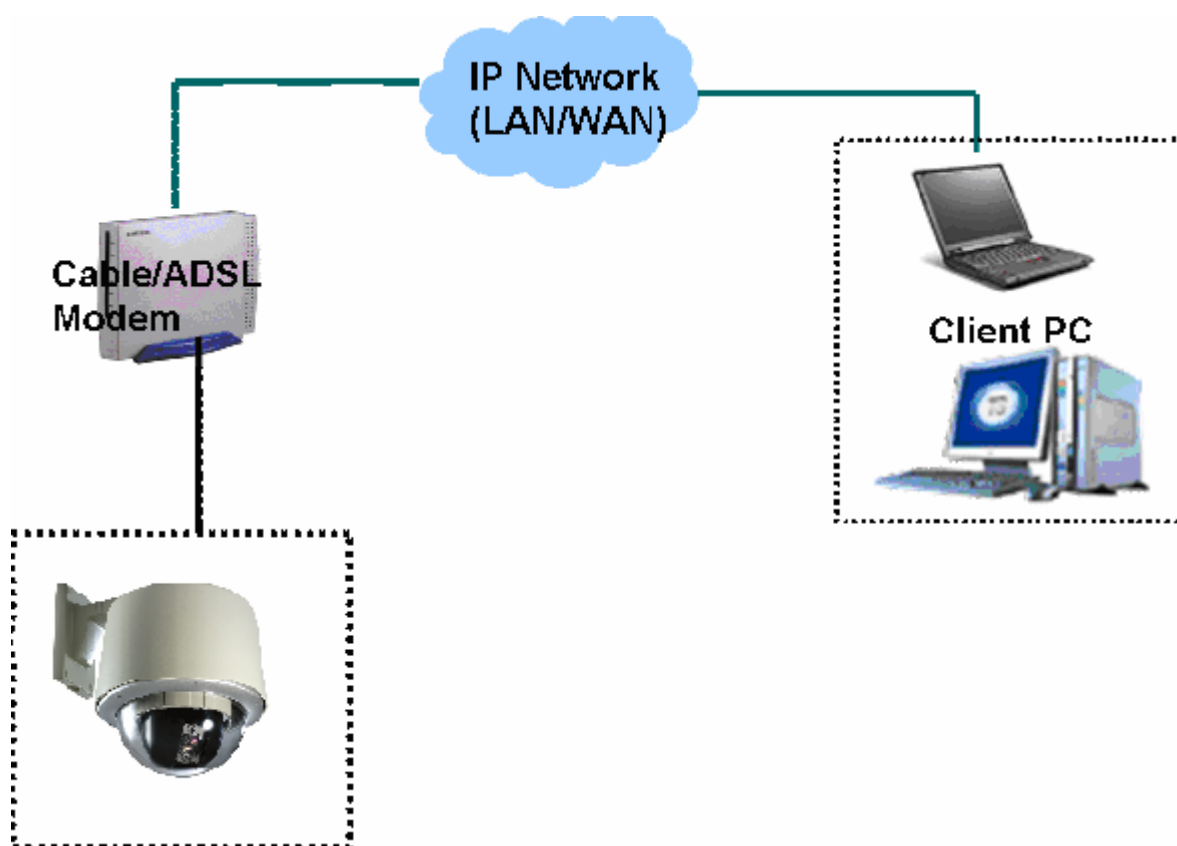

Fig. 3-2 Connecting Network Domes to ADSL/Cable Modem
2. Install Network Domes and connect it to xDSL or Cable modem as in Fig. 3-2.